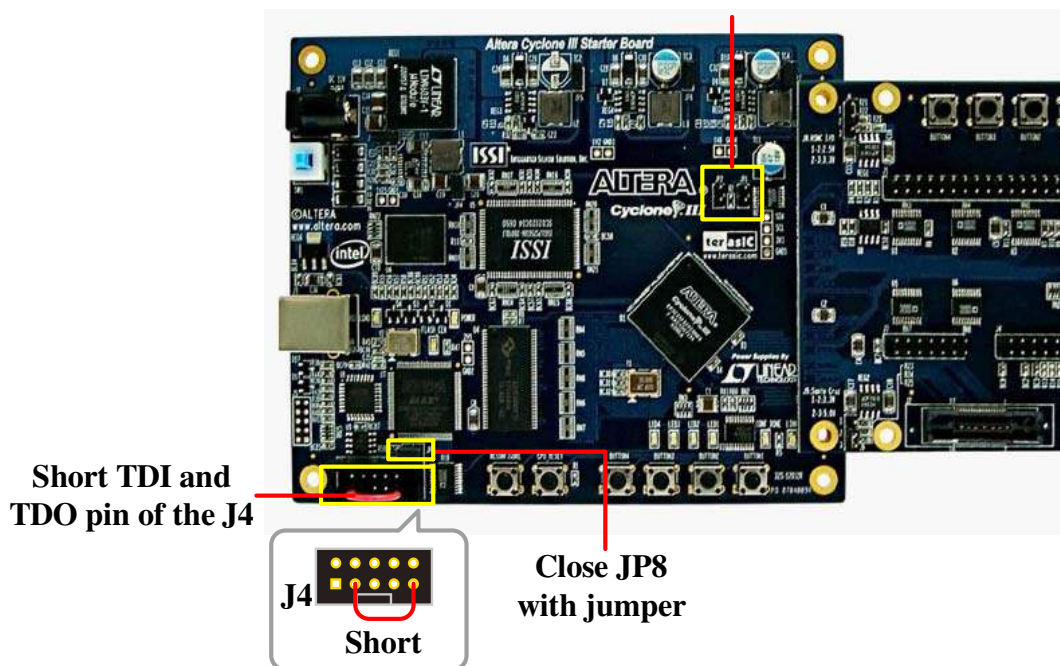

Figure 3.7 The configuration of the Cyclone III start board for controlling the JTAG chain using the Mictor connector
3. Short the TDI and TDO pins of the JTAG connector(J4), as shown in Figure 3.7